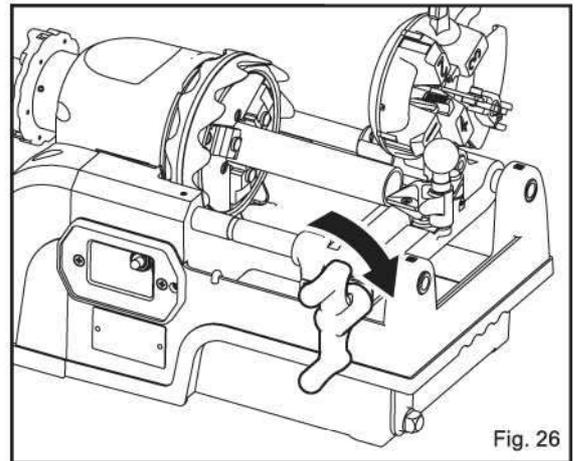

Fig. 26
- (3) Turn the machine on to start the pipe rotating. Then turn the carriage handle to the right to move the reamer forward to engage the pipe. Allow the pipe to rotate at least ½ a turn, and then remove the reamer from the pipe. That completes the reaming process. (Fig. 26)